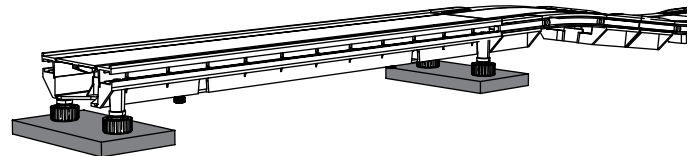

Figure 5: Block
**Block Method** Place blocks, or other objects such as books or lab jacks, under the feet of the straight section (Figure 5).